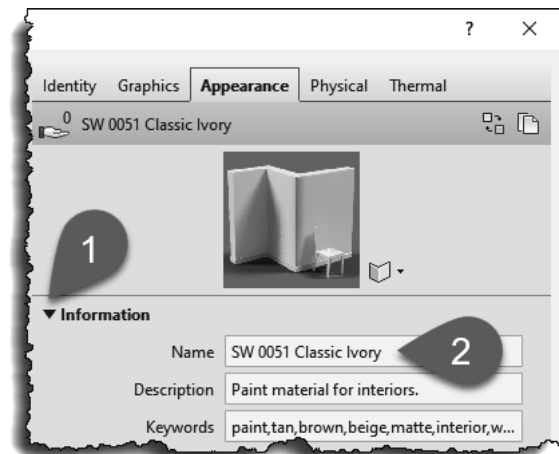

FIGURE 4-3.15 Rename new asset
46. Expand the **Information** area in the *Appearance* tab (Figure 4-3.15).